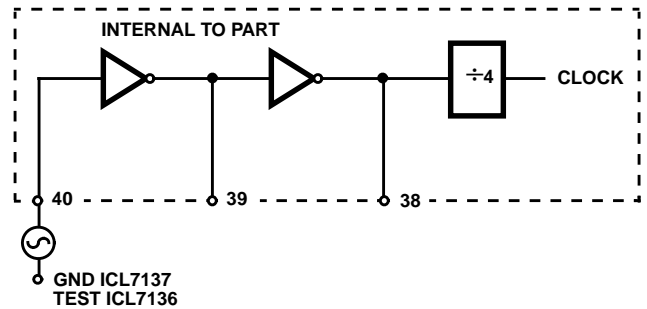

FIGURE 9A. EXTERNAL OSCILLATOR
1. Figure 9A, an external oscillator connected to DIP pin 40.